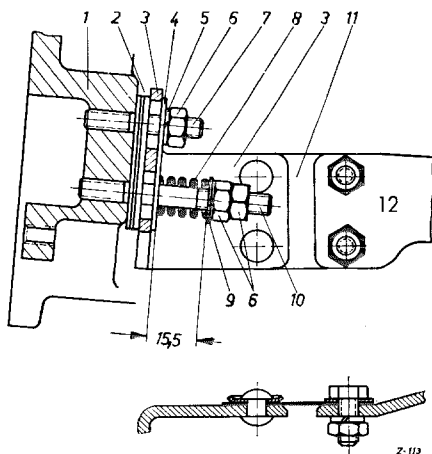

Fig. 26-1/6
The 4th version of the clutch pedal shaft is mounted on a swivel support which is attached to the clutch housing by means of a spring plate. This version has no compensating spring. In the case of Models 180 a, 180 b, 190 D, and 190 Db the sprung bracket for the swivel support is attached to the clutch housing as on Model 190 (Fig. 26-1/6).
On all other models the bracket is screwed rigidly to the clutch housing (Fig. 26-1/7).
2. Detach the swivel support (9) from the spring plate (8) by removing the two hexagon screws (Fig. 26-1/7).